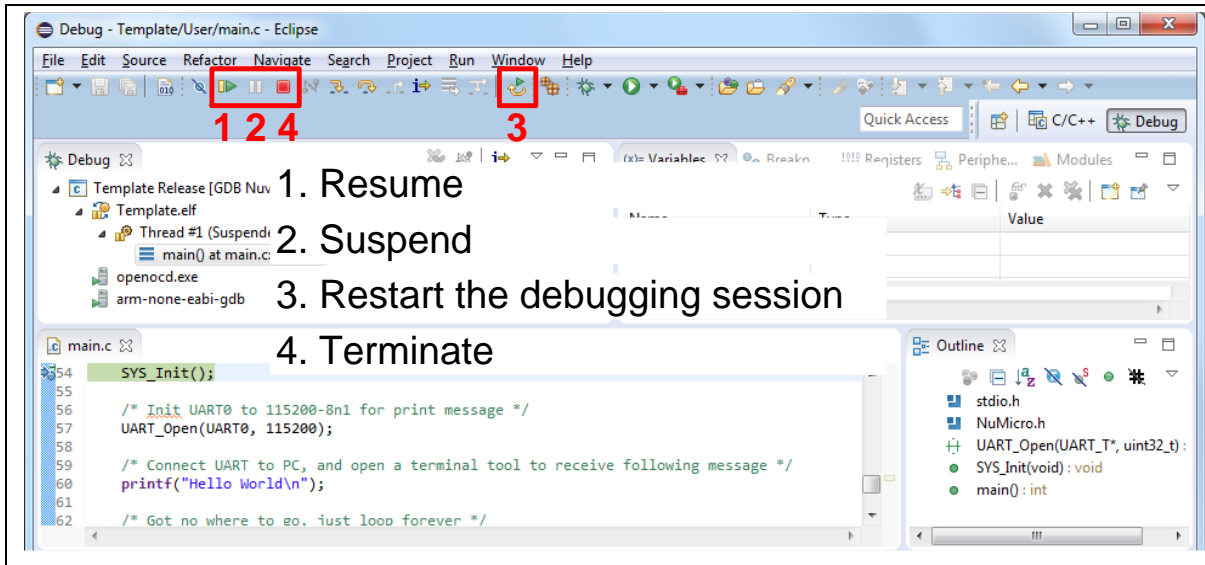

Figure 4-28 NuEclipse Debug Mode
- Figure 4-28 shows the debug mode under NuEclipse. Click “Resume” and the debug message will be printed out as shown in Figure 4-29. User can debug the project under debug mode by checking source code, assembly language, peripherals’ registers, and setting breakpoint, step run, value monitor, etc. For more information about how to use NuEclipse, please refer to the NuEclipse User Manual.